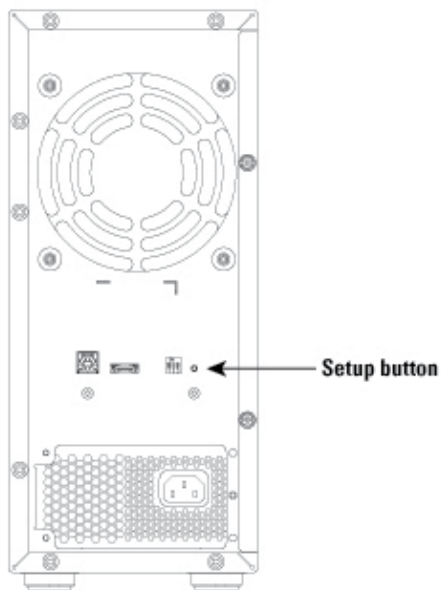

Fig. 15
3. Press and hold the setup button (fig. 15).